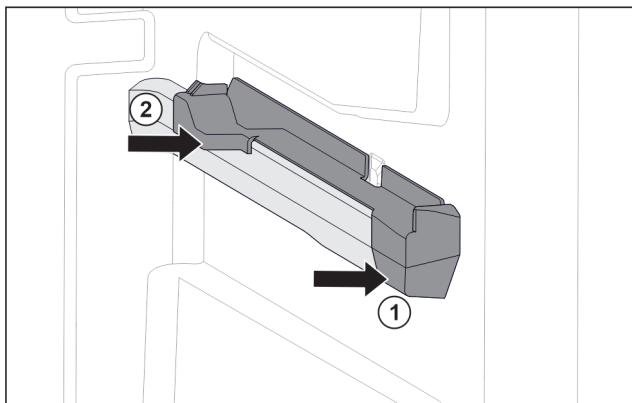

Fig. 72 Attachment on the right moulded rib
- Position attachment on moulded rib at the front. Fig. 72 (1)
- Press on attachment at the back. Fig. 72 (2)